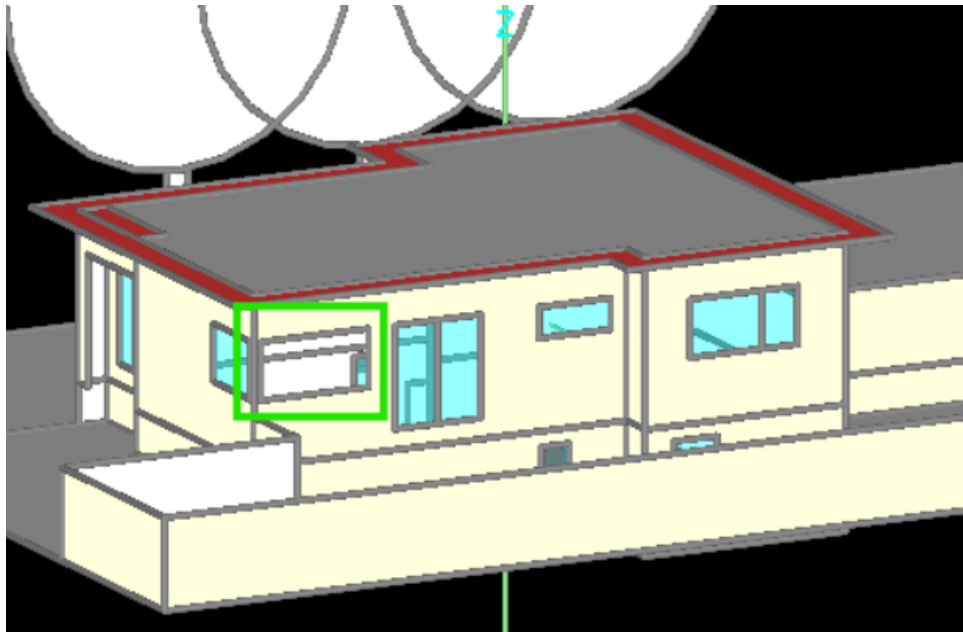

Figure 3.4. One surface was not imported from SketchUp to WUFI; this surface can be redrawn in WUFI Passive per Section 3.4.
- If only a few polygons were not imported and the missing polygons are obvious, the geometry may be fixed directly within WUFI Passive utilizing vertices from within the visualization box (Figure 3.4). Refer to Section 3.4.